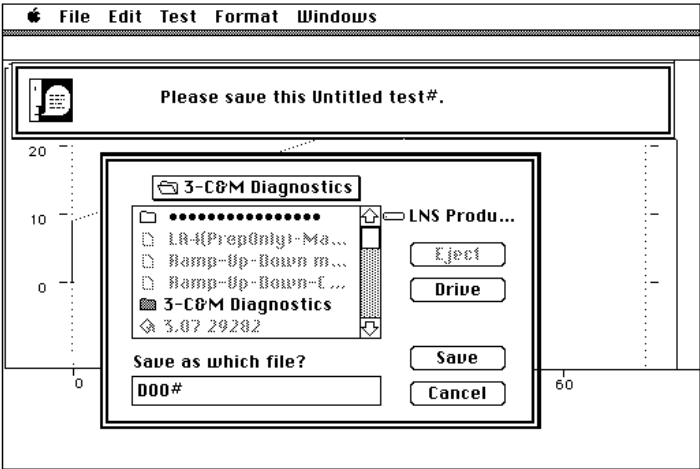

Figure 11
7.25.12 Respond to the message, “Please save this untitled test #” by entering the correct dyno number in the “D00#” field under the “Save as which file?” header (see figure 11). Click on “SAVE.”